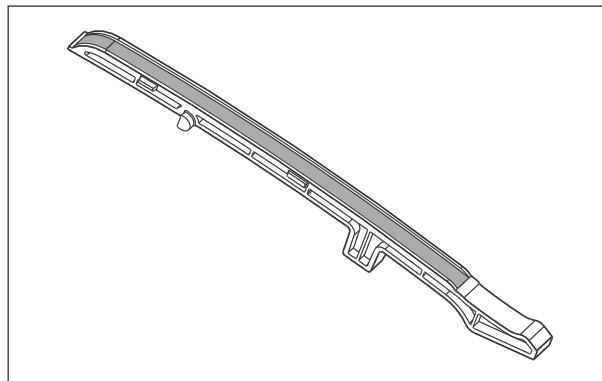

Fig. 3.85
- Inspect the guide cam chain for any distortion / damage, cuts or crack. If found any of the above, replace the guide with new one. (Fig. 3.85)